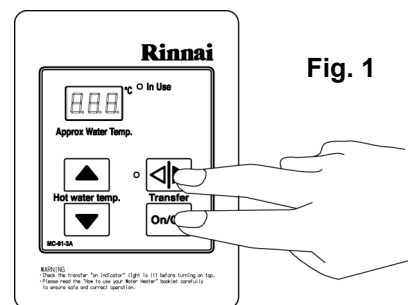

Fig. 1
STEP 1: On the Master controller only press and hold the **Transfer** and **ON/OFF** buttons simultaneously (see Fig. 1) until a "beep" is heard (approx. 5 seconds).
STEP 1: On the Master controller press and hold the **Transfer** and **ON/OFF** buttons simultaneously (see Fig. 1) until a “beep” is heard (approx. 5 seconds).